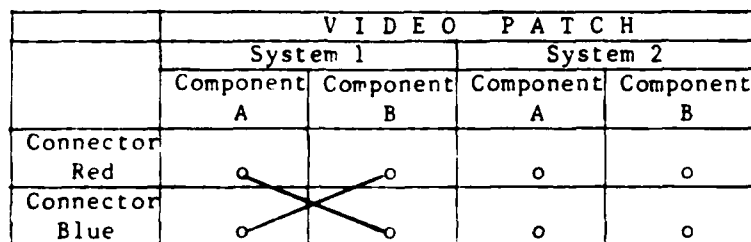

Figure 1. Structure of a Cabling Diagram.
1. The structure of cabling diagrams. Look over a cabling diagram until you know "what goes where." There are two levels of column headings. The top level column heading identifies the system. Directly below the system headings are the columns that name the components of the system. On the left side of the cabling diagram, you will find the row headings. The row headings name the connectors. (See Figure 1 below.)
The connectors are represented by circles, as shown in Figure 1 above. Attached to some of the circles you can see solid dark lines. The solid dark lines are the cables.
2. Know when a system is cabled. When a system is cabled, it is being used. You can know when a particular system is being used by looking at the columns (components) that are within the system. There are usually two or three columns (components) within each system that you must look over to see if there are any cable connections. If you see the solid dark lines (cables) attached to one or more of the circles, then you can identify that system as one that is being used. For example, In Figure 1 on the previous page, the solid dark lines (cables) that are attached to the circles (connectors) are found in System 1 only. You can then proceed to identify the connection(s).
For example, in Figure 1 on the previous page, we can identify one entire connection as: